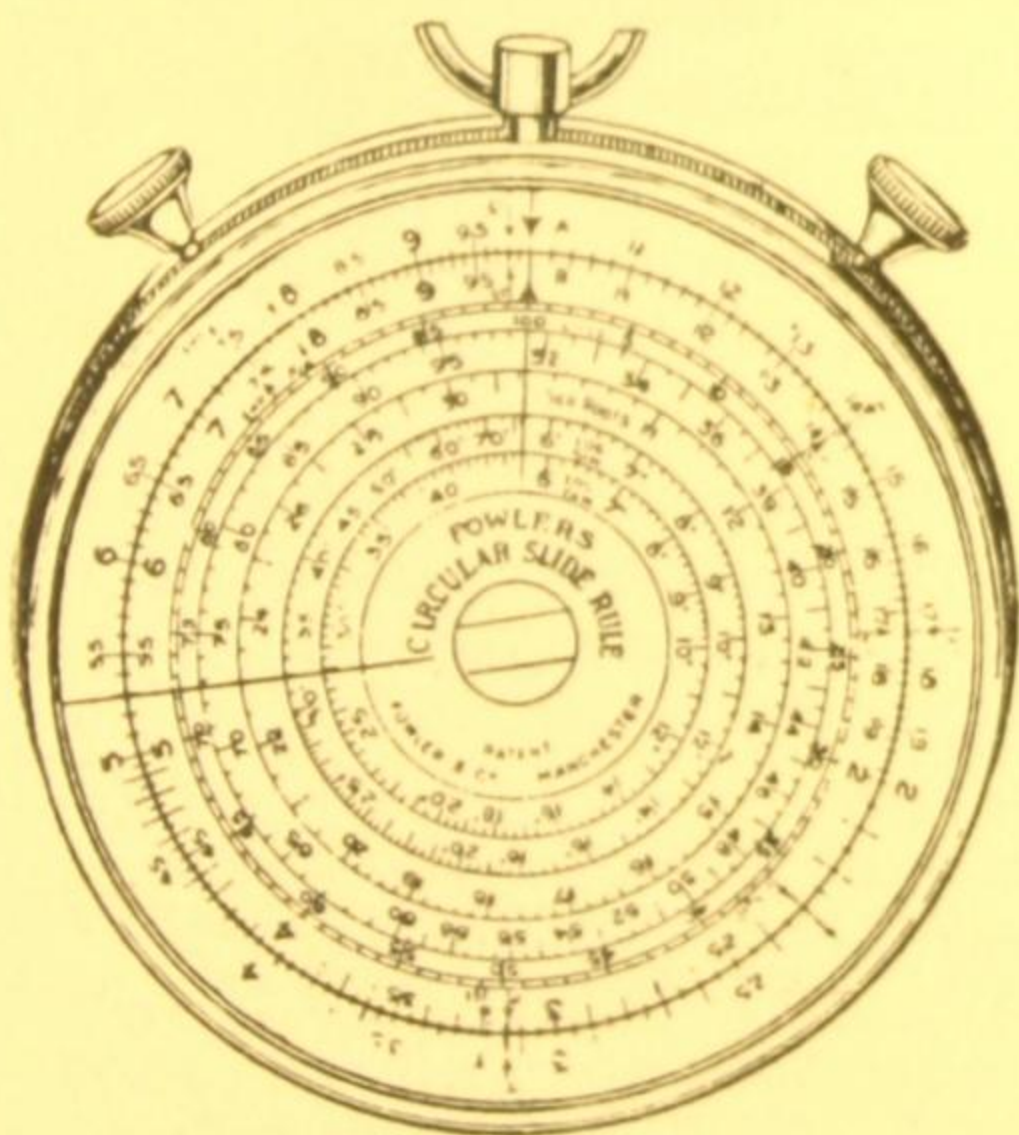

Fig 163
**The Fowler Circular Slide Rule.** Designed with the scales to read edge to edge after the manner of an ordinary straight slide rule. The two dials which are  $2\frac{1}{2}$ -inches diameter are fitted back to back in a similar way to the Fowler Calculators. Fig. 163 illustrates the Front Dial and is used for multiplication, division, squares, square roots, proportion, percentages, fractions to decimals, decimals to fractions, logarithms, natural or log tangents, sines and log sines for angles  $6^\circ$  to  $90^\circ$ , gauge points, etc. The Back Dial is used for cubes and cube roots, sines and log sines for small angles  $35'$  to  $5^\circ 45'$  and reciprocals.